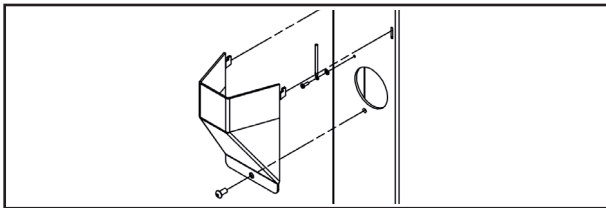

Fig. 1: Mounting cable cover
8. Attach the cover plate to the pole using the anti-theft bolt M8x16 mm (see Fig. 1)